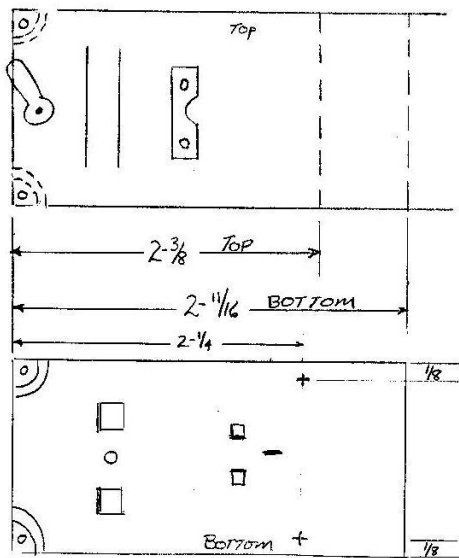

Figure 1
- Step 3: With the coil to the right and the track clamp to the left, measure 2-3/8" from the clamp side and cut the top piece at this mark. Please refer to Figure 1.
- Step 4: With the coil to the right and the clamp to the left, measure 2-11/16" from the clamp side and cut the bottom piece at this mark. Please refer to **Figure 1**. The piece which you have cut will be referred to as the "coil piece".
- Step 5: From the clamp side of the bottom piece, measure 2-1/4" along **both long sides and make a mark 1/8" from each side**. At this mark, drill a 1/8" hole. Please refer to **Figure 1**.